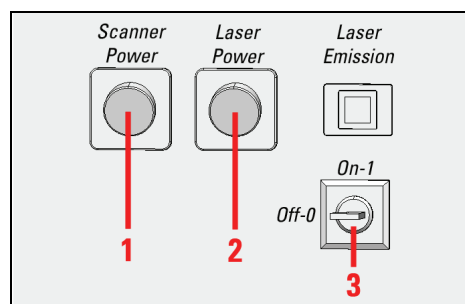

Figure 211: Overview of the Control Panel Field on the Compact Supply Unit
4. Turn off the lasers in the supply unit with the key switch on the front side of the compact supply unit (see **Figure 211, item 3**).
12. Switch off the lasers (see **Figure 211, item 2**) and the scan head (see **Figure 211, item 1**) on the front side of the compact supply unit.